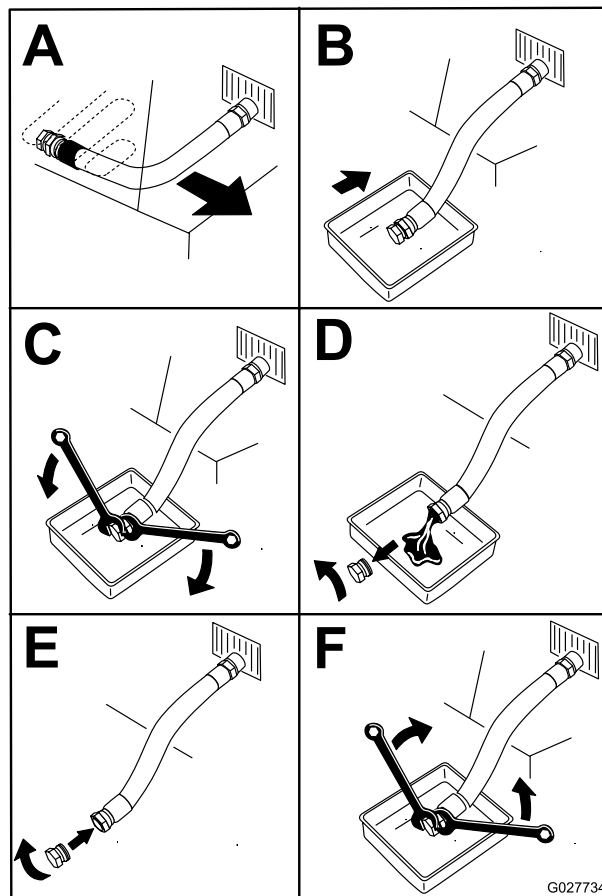

Figure 53
4. Shut off the engine, remove the key, and wait for all moving parts to stop before leaving the operating position (Figure 53).